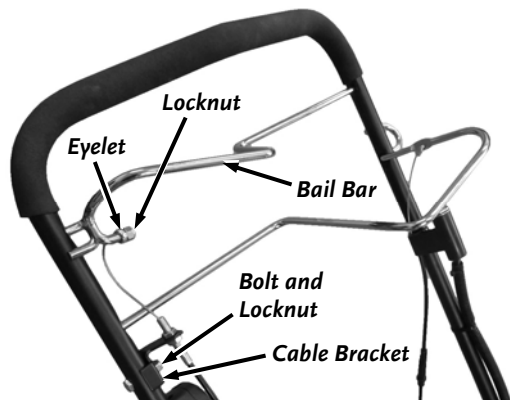

Figure 35
5. Remove the Locknut that is securing the Drive Cable Eyelet to the Bail Bar using a 7/16" Wrench and remove the Eyelet from the Bail Bar (**Figure 35**).
20. Reattach the Cable Bracket to the Handlebar using two 7/16" Wrenches (**Figure 35**).